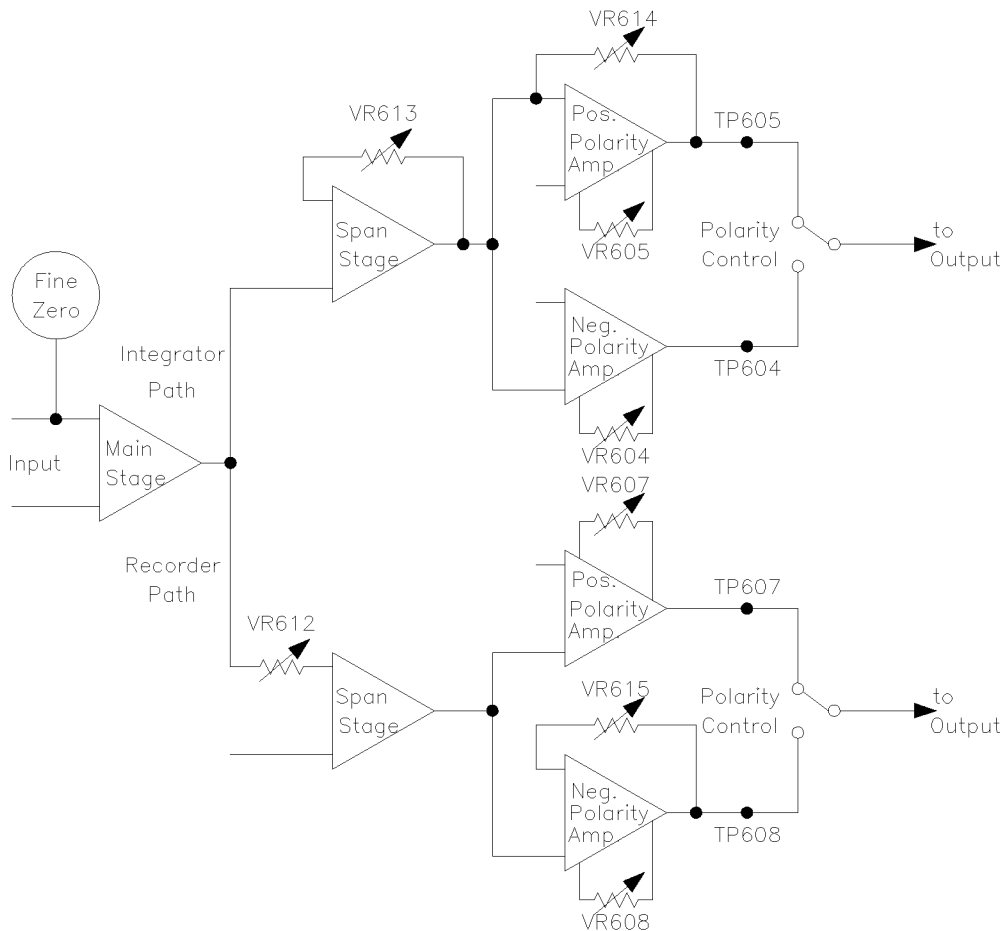

Figure 2-23. Amplifier Board Potentiometers
- Figure 2-23 is a simplified diagram describing the potentiometers on the AMPLIFIER BOARD. This diagram describes the current board (8 pots). If the old board (14 pots) is present, it should be discarded and a new board ordered. On the board, test points extend out to the rear for convenience.